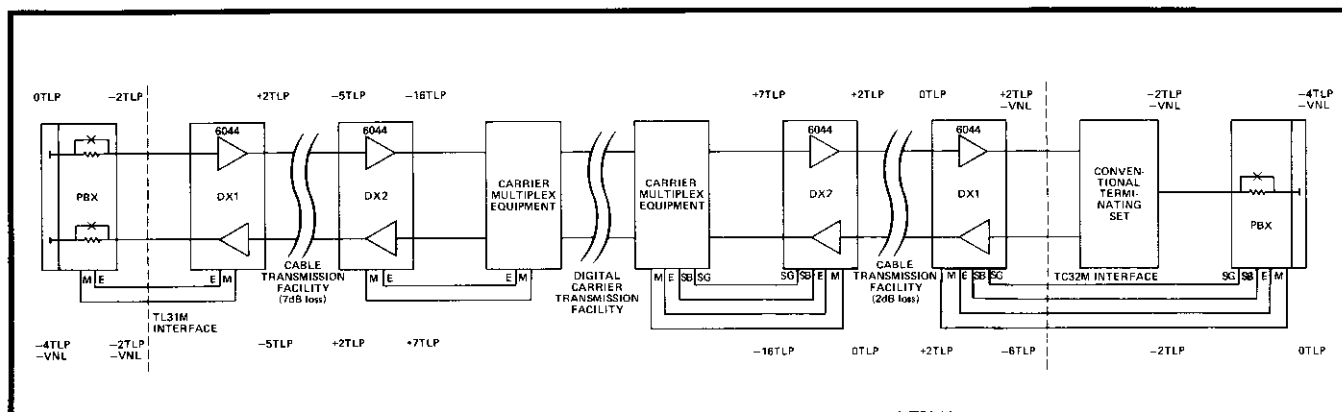

figure 2. Typical long-haul tie-trunk circuit using 6044 Network Terminating Modules
2.01 The 6044 Network Terminating Module provides transmission interface and signaling conversion between a 4wire metallic facility using DX signaling and a 4wire PBX tie trunk using E&M signaling or a carrier channel (figure 2). This module combines the functions of a 4wire line amplifier